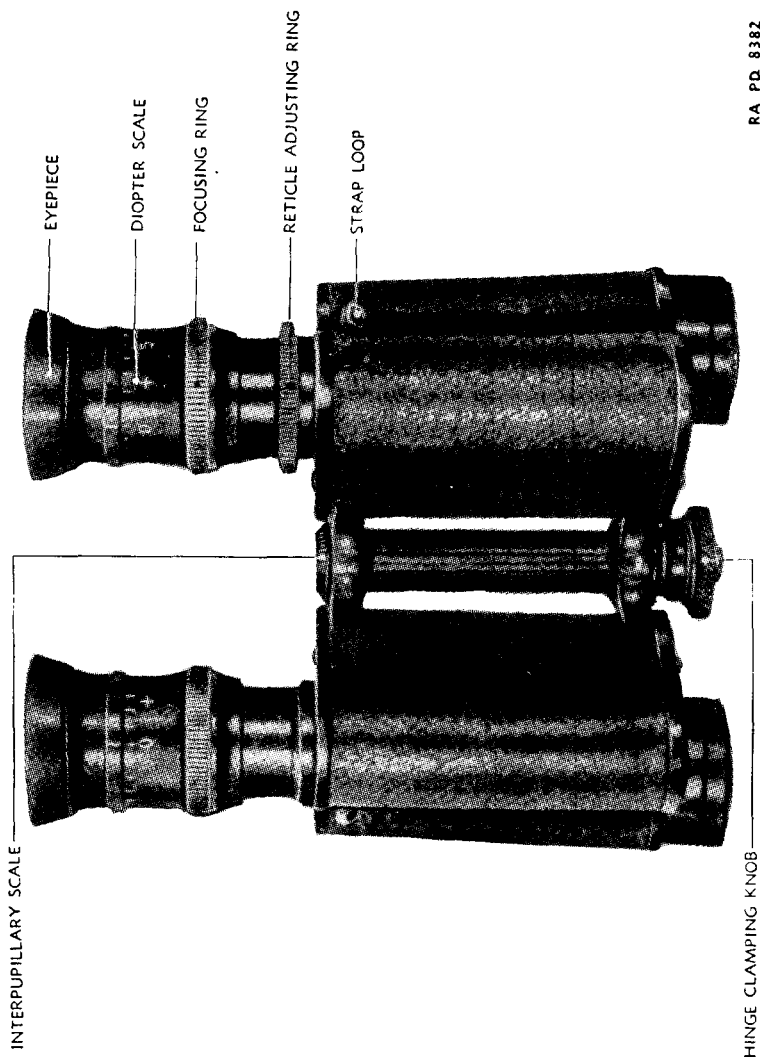

FIGURE 8.—Huet type field glass, 8-power.
4. Glass, field, Huet type, 8-power.—The Huet field glass (fig. 8) is a limited standard field glass. The reticle pattern (fig. 9) consists of a vertical line and a horizontal scale, graduated at 5-mil intervals, extending 40 mils on each side of center. Operation of the Huet type field glass is the same as that of binocular M3, with the added use of an interpupillary hinge clamping knob and a reticle adjusting ring (see fig. 8). Precautions taken with binocular M3 apply also to this field glass.